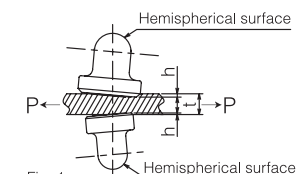
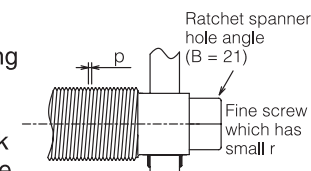
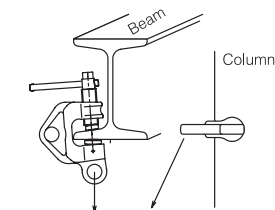

Fig. 1
Fig. 3 Pitch r of screw : p
Fig. 5 Example of using the clamp instead of an I-plate
- ① The load-acting points on both the screw cap and the cam are hemispherical (pivot-shaped). Consequently, if the suspension load moves by even a minute amount, the clamp will rotate in synchronism with this motion and tilt in the forward direction. This in turn will cause the teeth to cut into the suspension load with a large force. (Refer to Fig. 1.)
- ③ A fine screw (automatic tightening) is used to apply a tightening force and also prevent the screw from slackening easily. (Refer to Fig. 3.)
- ④ During hoisting work, even in the event that the handle strikes another structural object, causing the screw to work loose (to 60° or less), the holding force of the screw (stroke generated by the tilt of the teeth) will greatly exceed the slackening of the screw, enabling you to use the clamp with peace of mind.
- ⑤ This is the world's lightest clamp. It can be used even by female workers.
- ⑥ A hemispherical W cam system is employed, causing the clamp to cut into the load from both sides. (Refer to Fig. 1.)
- ⑧ The head of the screw has a hex hole for a ratchet spanner (B= 21). This enables you to install the clamp in a confined space without using the handle. (Refer to Fig. 3.)
- ⑨ You can use the clamp on a load whose grip surfaces are inclined at an angle of less than 10° with respect to each other (8° I-beam). Refer to item 8 of “Precautions for use.”
- ⑩ You can use the clamp instead of an I-plate. (Refer to Fig. 5.)
- (1) Appearance and function. (damage to the body, operating condition of the screw, rotation and tilt of the screw cap and cam, wear and clogging of the teeth, and so on) Refer to Fig. 1 and item 2 of "Precautions for use."
- (2) Maximum work load indication and minimum working load. (This is 1/10 of the force equivalent to the maximum working load. In the case of a general clamp, it is 1/5.)
- (3) Effective sheet thickness. (Refer to Table 1.)
- (4) Use clamps that are suitable for the mass of the load to be suspended. (Refer to Table 1.)